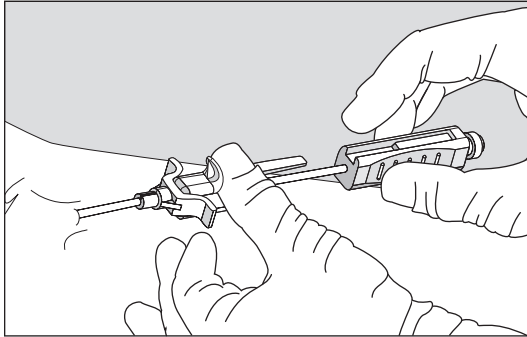

Figure 16
- Firmly hold needle hub with one hand while using other hand on push-off tab to advance introducer sheath to a desired length. Use index finger or thumb on push-off tab to stabilize needle protector. Then pull back needle hub until needle protector activates over needle bevel (refer to Figure 16).